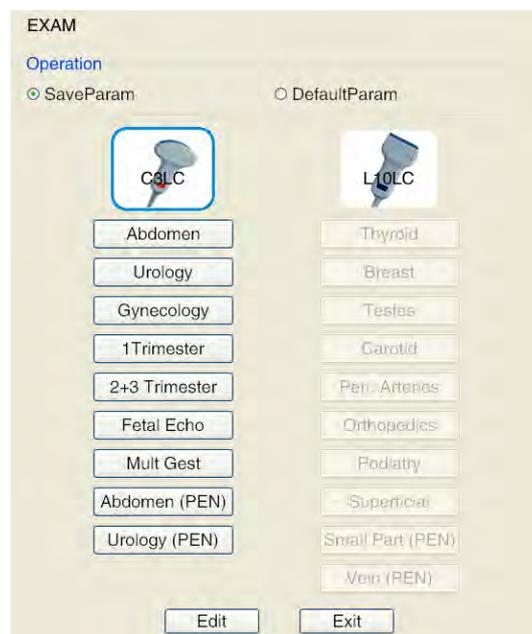

Fig. 5-17 Examination settings
**EXAM SETUP** enables users to set up imaging parameters for various examination types and to create new examination types. Tap **SETUP** on the touchscreen to bring up the **SETUP** screen. Then click on **Examination Setup** to bring up the **EXAM** screen, as shown in Fig. 5-17. Models of all the connected probes will be displayed on the screen, with all exam types supported by them listed below the corresponding probes. In **Operation** there are two options to choose from: **SaveParam** and **DefaultParam**.